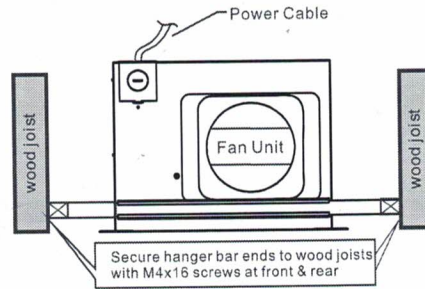

Figure 3: Mounted between wood joists by hanger bars
- iii) For method in figure 3, secure the fan unit by driving screws onto the joists through the holes at the ends of hanger bars.